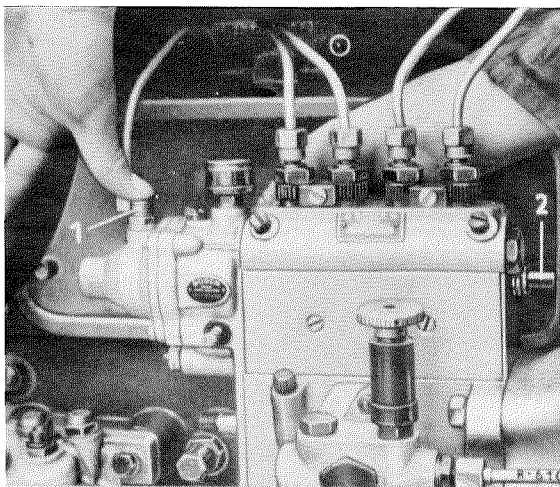

Figure 07-8/1
Remove the protecting cap (2) from the control rod. Disconnect the vacuum line at the vacuum connector (1). Press with adjusting lever the control rod fully in direction STOP. Seal the vacuum connector (1) with one finger. Then release the adjusting lever (Figure 07-8/1) and watch the control rod.